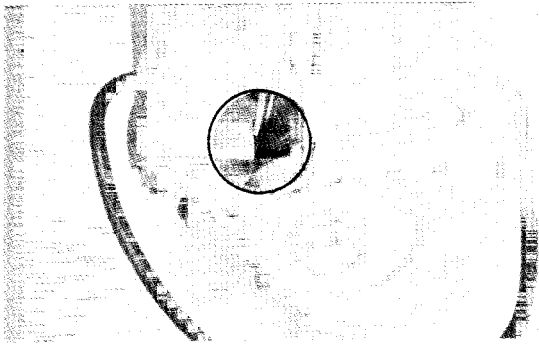

Figure 2.3
2.3 CHECK MOTOR BRUSHES (fig. 2.3)